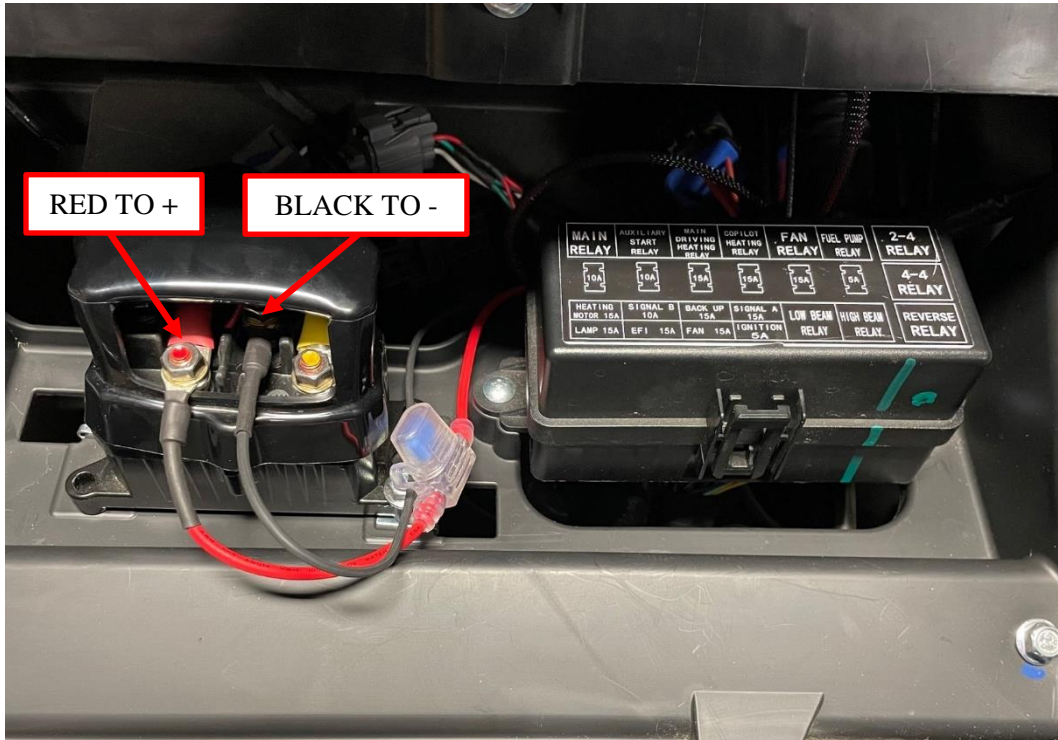

Figure 18: Winch contactor cable connections.
19. Connect the chassis harness battery cables to the winch contactor, clamping the cables on top of the existing cables with the factory hardware. Connect the red harness wire to the terminal with the existing red battery cable (+ 12V). Connect the black harness wire to the terminal with the existing black battery cable (- 12V). Place the plastic contactor cover back over the cables once all connections are made. See Figure 18.